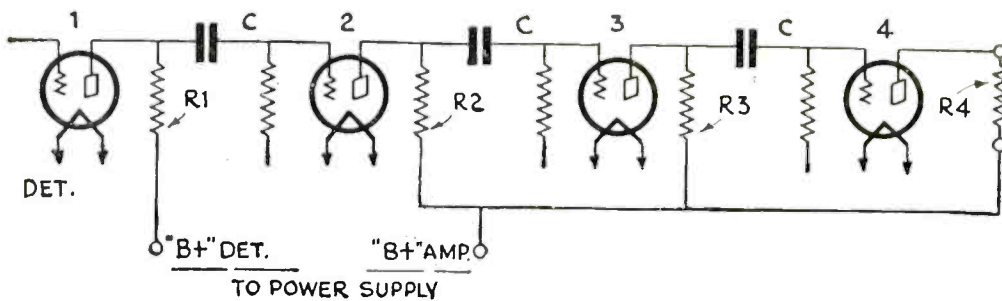

Fig. 1—A fundamental resistance-coupled amplifying circuit—the starting-point for the design of a scientific television amplifier.
television purposes. When the image has a vector of motion in the tangential direction of the scanning mechanism (that hole) is, moves across the frame in the same direction as the scanning, some frequencies may be lower than the picture-frequency. It is generally conceded that a resistance-coupled amplifier is the only system providing the degree of linearity (fidelity) and low-frequency response essential to good television reproduction. The fundamental circuit, to which we shall refer, is illustrated in Fig. 1.
Referring to Fig. 1, let us represent the direct hum effects in tubes 1, 2,
It follows from equation (2) that, by reducing the hum variation in R_1 , in Fig. 1, to the correct fraction of